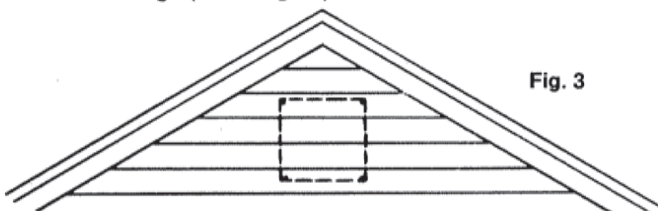

Fig. 3
4. Outside of the attic, draw a line between the four holes to provide a guideline for cutting the siding and sheathing. (See Fig. 3)